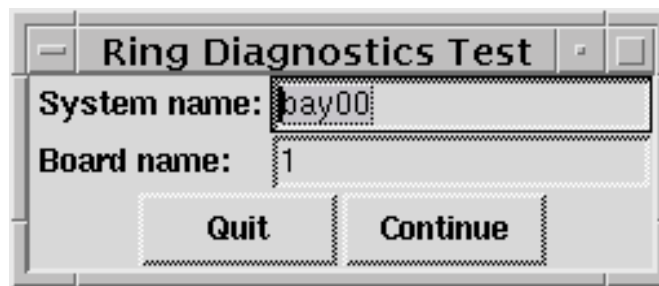

FIGURE 137 Ring Diagnostic Window
2. Launch the RING program from the GANTRY pulldown menu. When the window appears, click on Continue. See Figure 137.